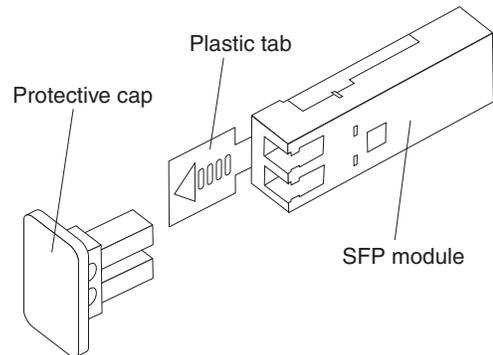

Figure 49. Small Form-Factor Pluggable (SFP) Module
7. Remove the protective cap from the SFP module, as shown in Figure 49.